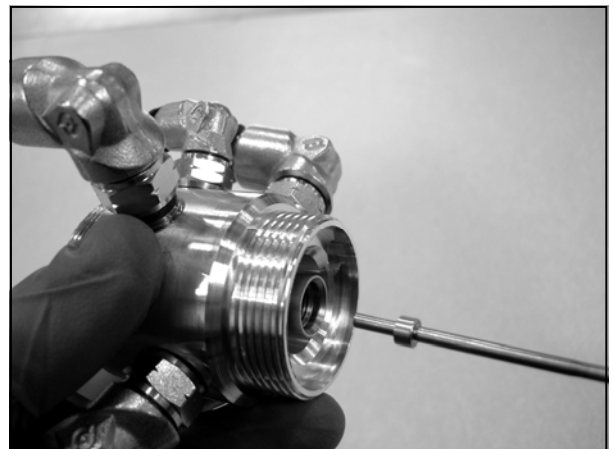

Figure 16
7. Remove the fluid packing components by pushing the DUX fluid packing tool fully toward the rear of the spray gun, forcing the packing assembly out. Be sure to remove all packing contents from the fluid tube (See Figure 16).